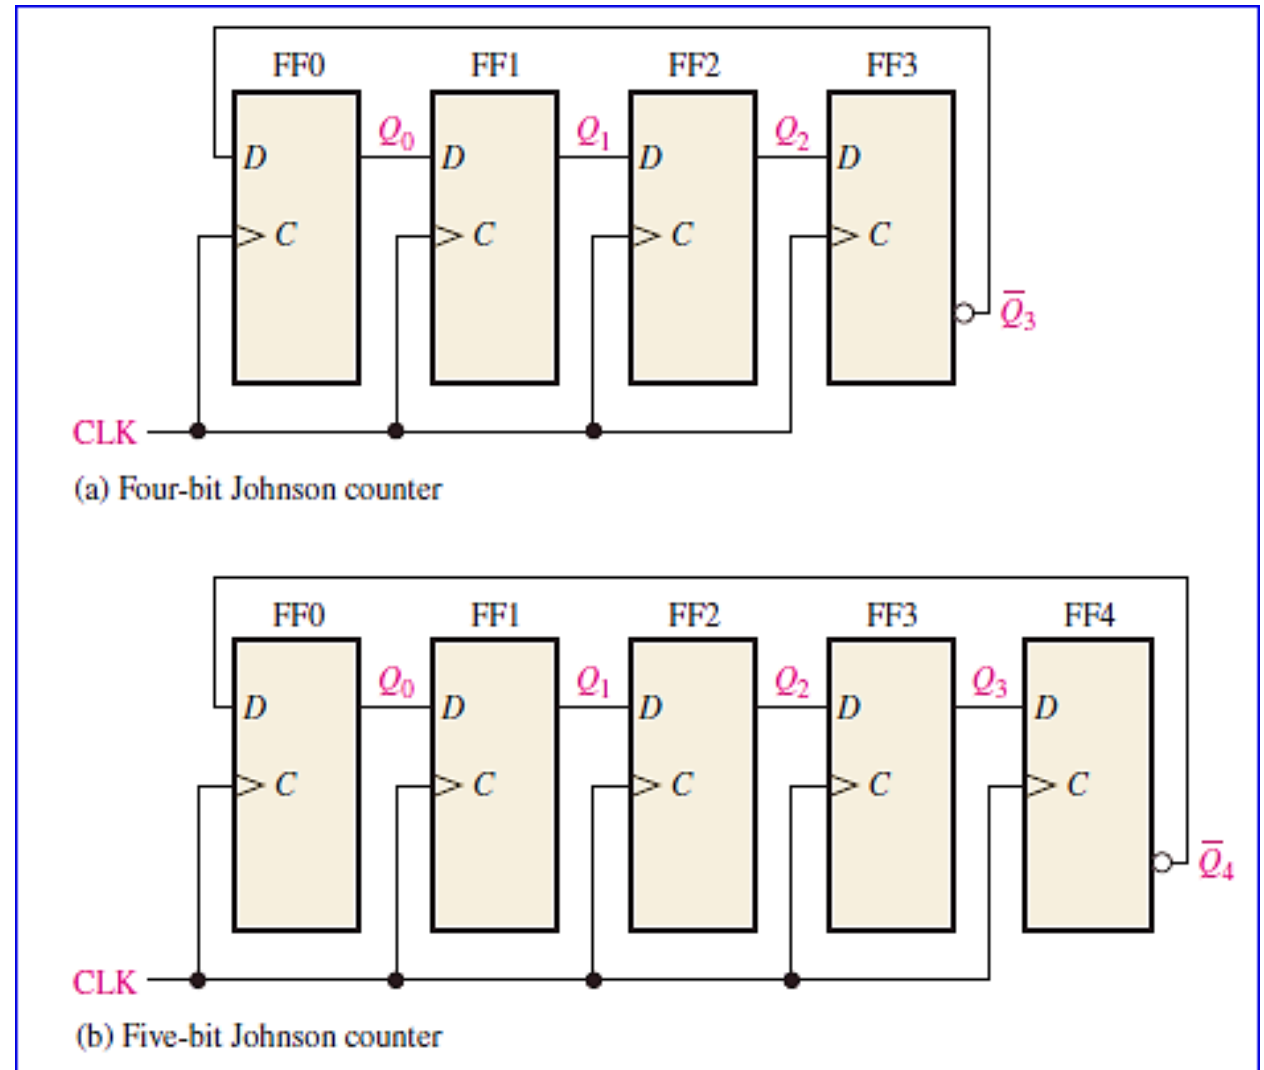

FIGURE 21 Four-bit and 5-bit Johnson counters.
- The implementations of the 4-stage and 5-stage johnson counters are shown in Figure 21. The implementation of a Johnson counter is very straightforward and is the same regardless of the number of stages. The Q output of each stage is connected to the D input of the next